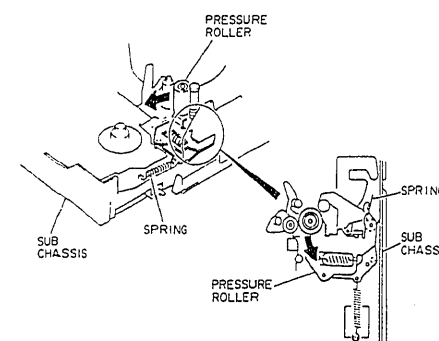

Fig. 2-38
- 1) Release the spring between the pressure roller and sub chassis. (See Fig. 2-38)